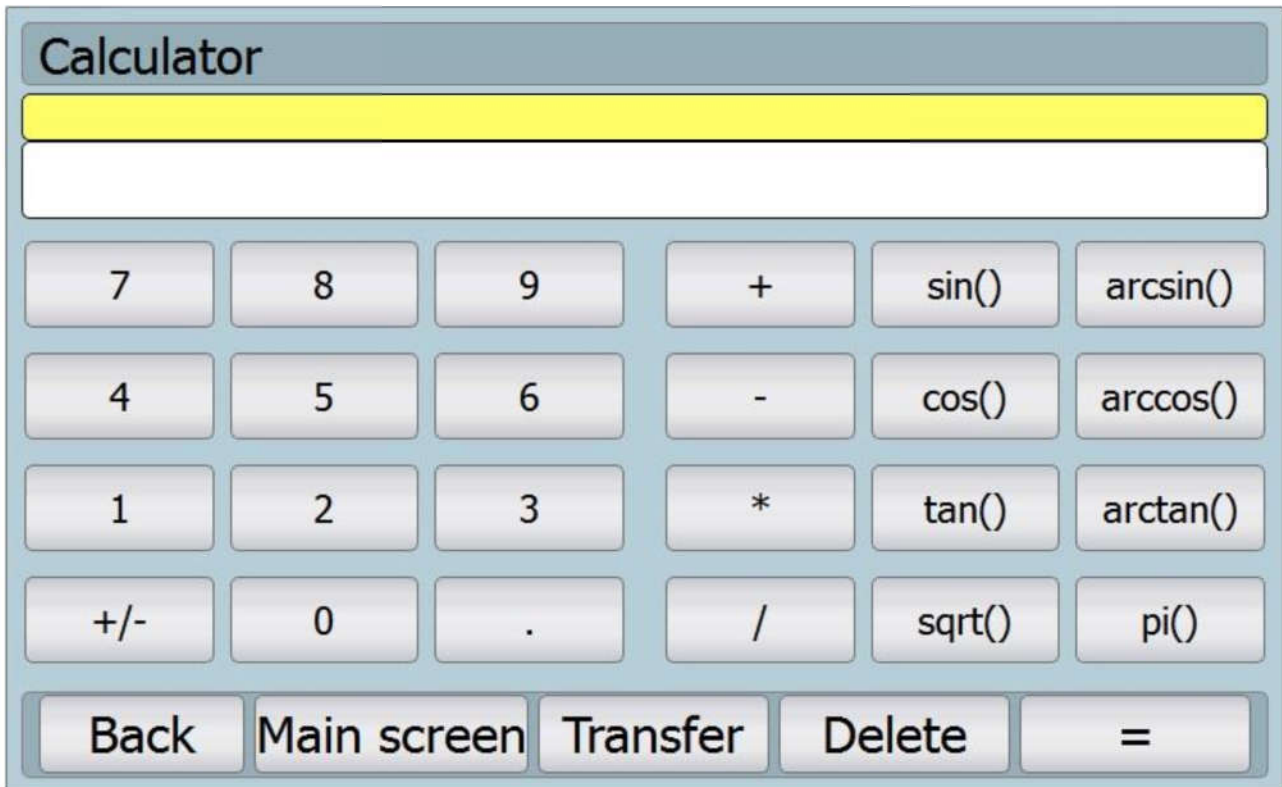
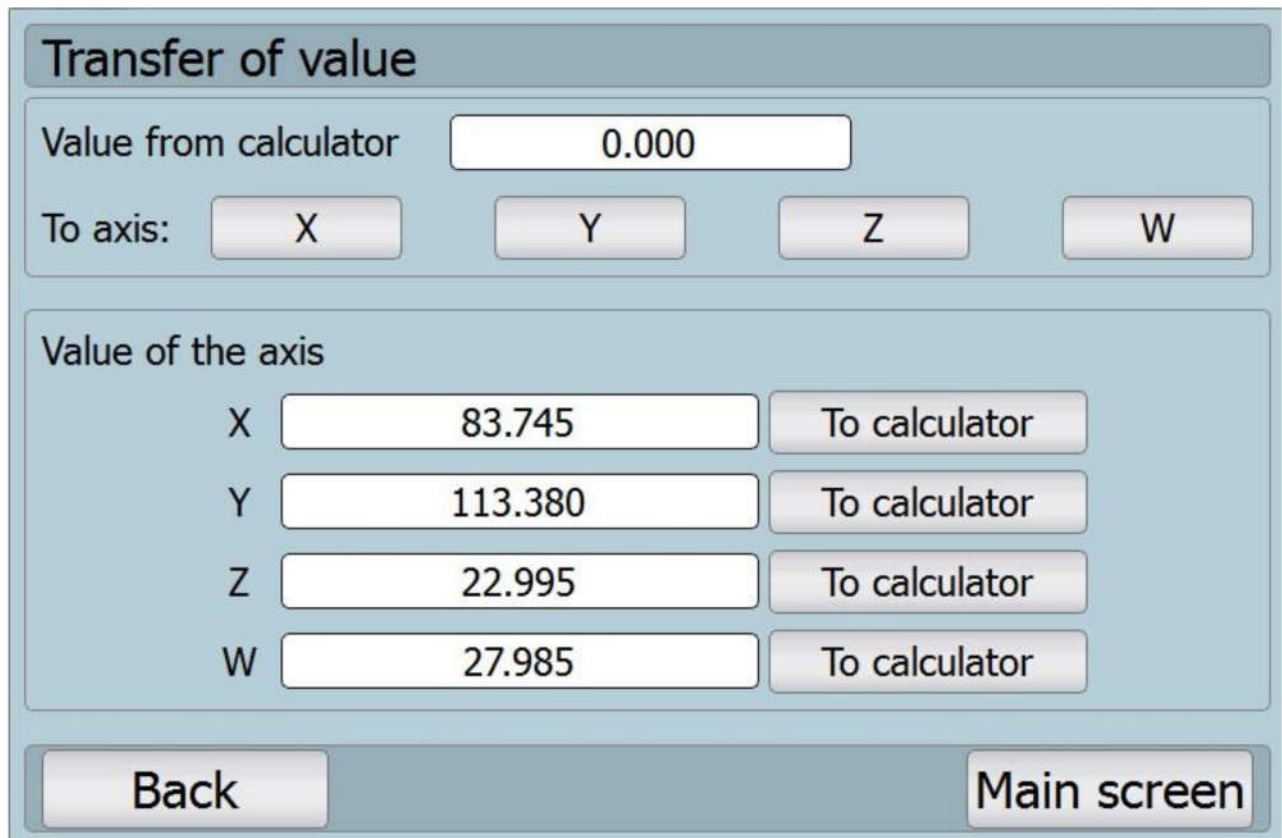

Fig. 15: Calculator
Fig. 16: Calculator – value transfer
- ⑩ Calculator for individual calculators (see fig. 15: Calculator).
- ⑩ It contains goniometric functions.
- ⑩ Top panel (yellow) is used for the display of entry history and the panel below is used for the display of the results, inter-results, and entering the actual value.
- ⑩ Button „**Prenest**“ (transfer) is used for transferring the values from individual axes to the calculator or vice versa from the calculator to individual axes (see fig. 16: Calculator – value transfer).